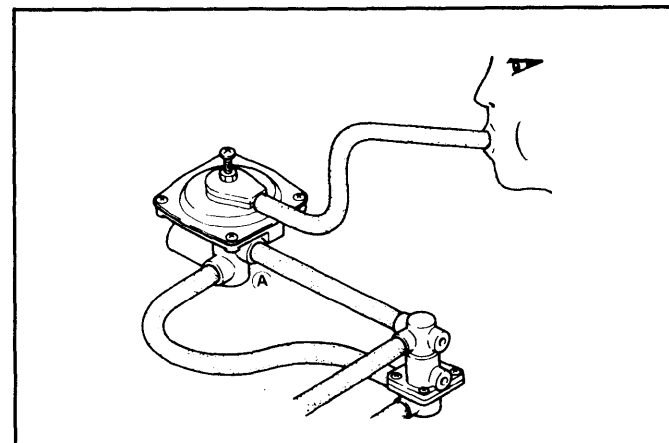

Fig. 11: Evaporation Compensator Valve Test
2) Start and run engine at idle. Close inlet to evaporation compensator valve. Engine speed should not change noticeably. Connect hose at "A" and apply air pressure to sensing hose. See Fig. 11. There should be no increase in engine speed.